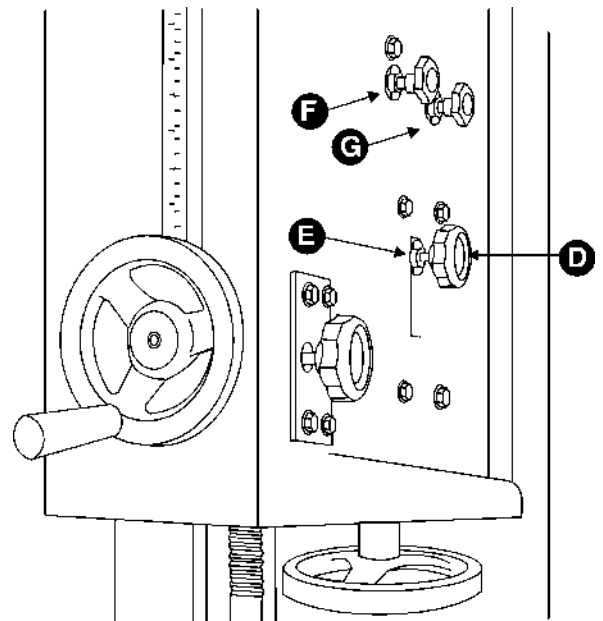

FIGURE 8
NOTE: Make this adjustment with knob (D), Figure 8. Do not use knobs (F) or (G). These are used by the factory for wheel alignment and NOT for wheel tracking.